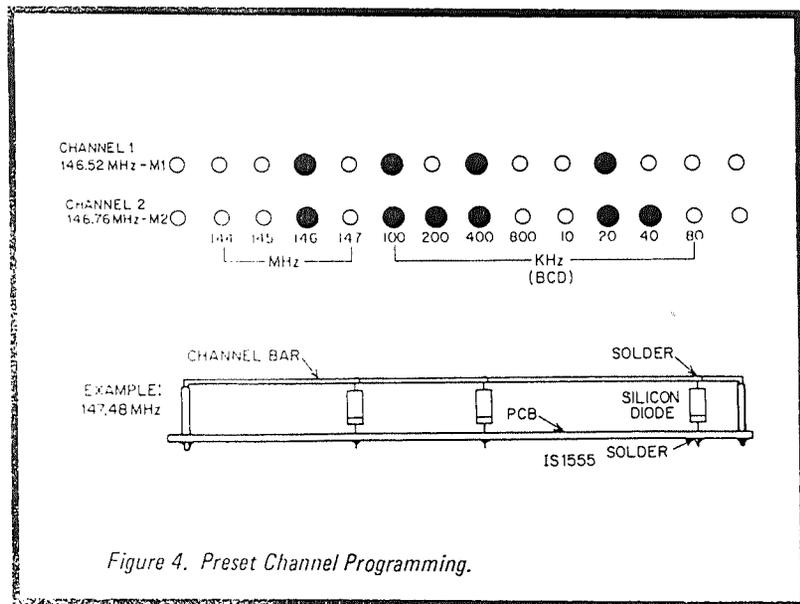

Figure 4. Preset Channel Programming.
5.1 PRESET CHANNEL PROGRAMMING (See Figure 4)
Use 1S555 type silicon diodes (GE-300 or HEP-R0050 diodes are equivalent) for the program. As an example, select 146.76 as the desired receive frequency. To program that receive frequency into the second channel, locate the bus wire on the programming matrix labeled M2 (select M1 for the first programmable channel). A diode is inserted in the hole labeled 146 (or whatever MHz desired) with the cathode (banded) end closest to the board (as shown in Figure 4).